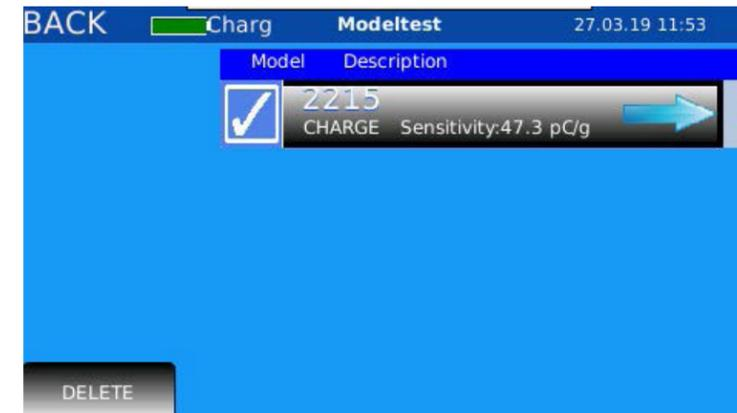

Figure 85. Select the sensor to be deleted
2. Select the **Delete button** in the bottom-left corner (Figure 85).